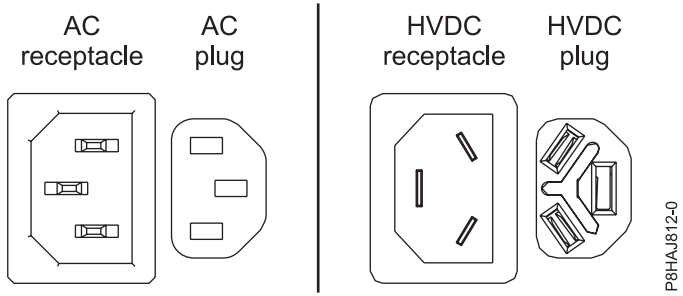
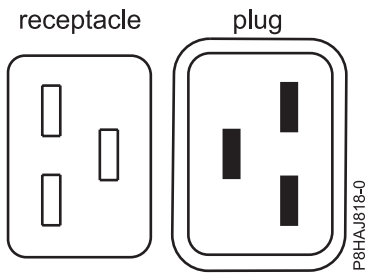
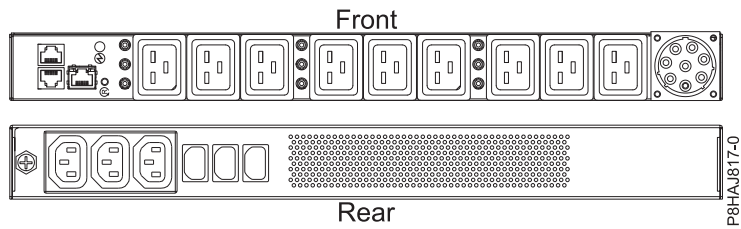

Figure 53. AC and HVDC connectors
Figure 54. Connectors for the 8408-44E system
Figure 55. PDU for the 8408-44E system
Figure 53 on page 93 shows the supported alternate current (AC) and high voltage direct current (HVDC) connectors. Figure 54 on page 93 and Figure 55 on page 93 show the supported connectors and power distribution unit (PDU) for 8408-44E.